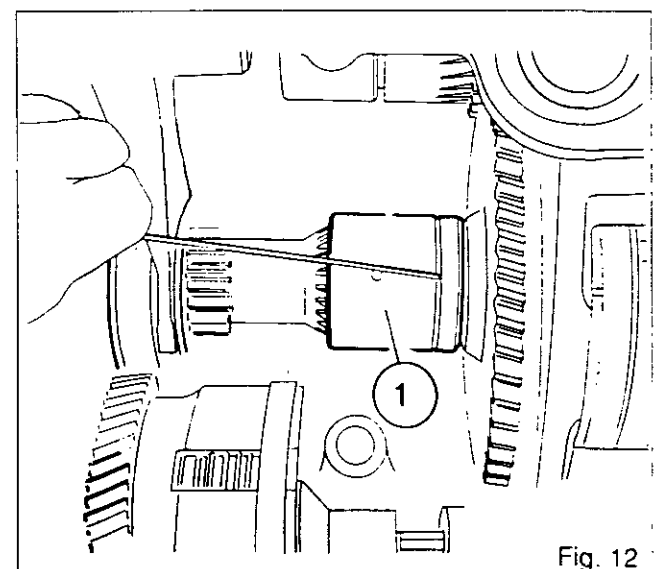

Fig. 12
**Note: The machining groove on the sleeve (1) should face the rear of the tractor (Fig. 12).**